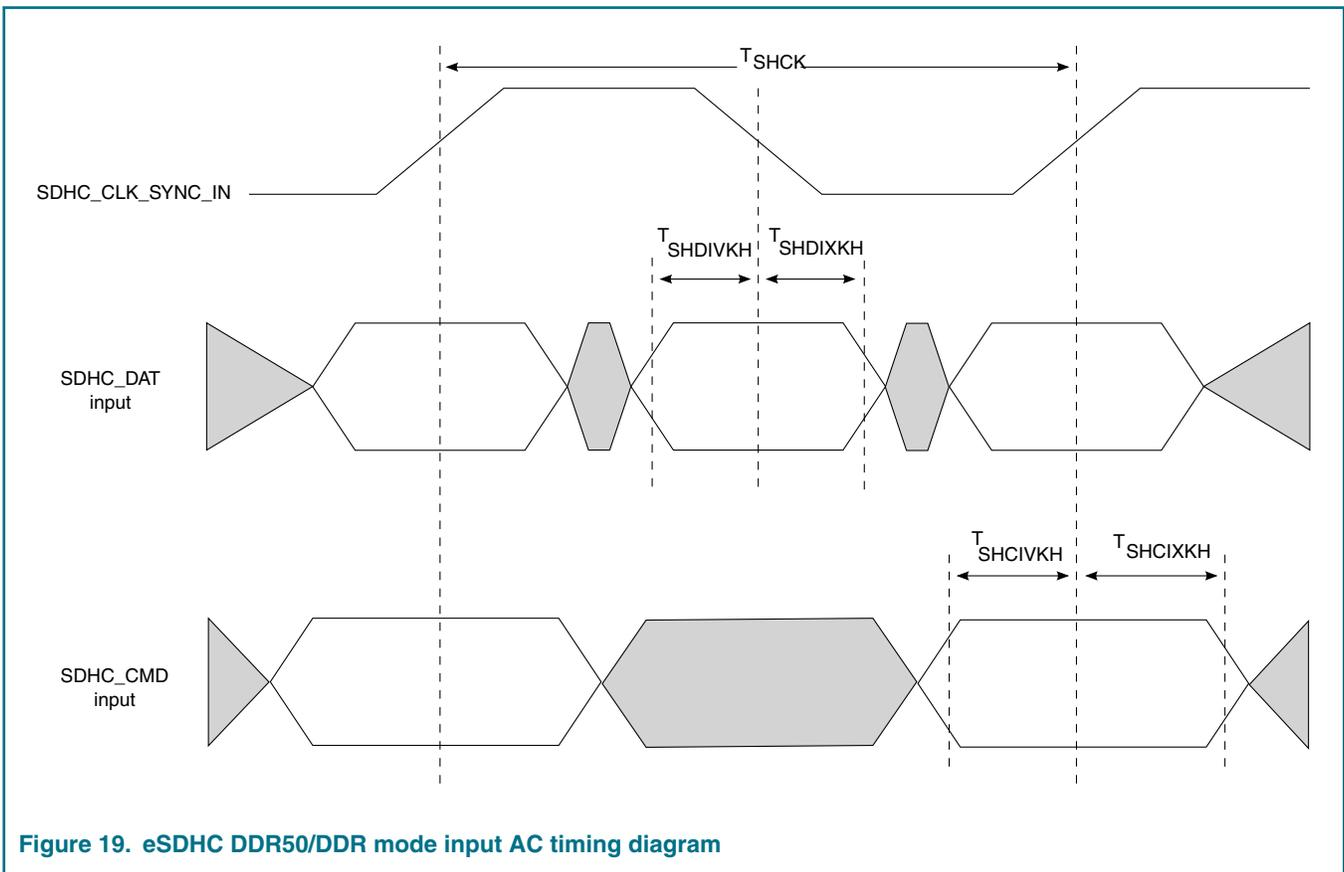
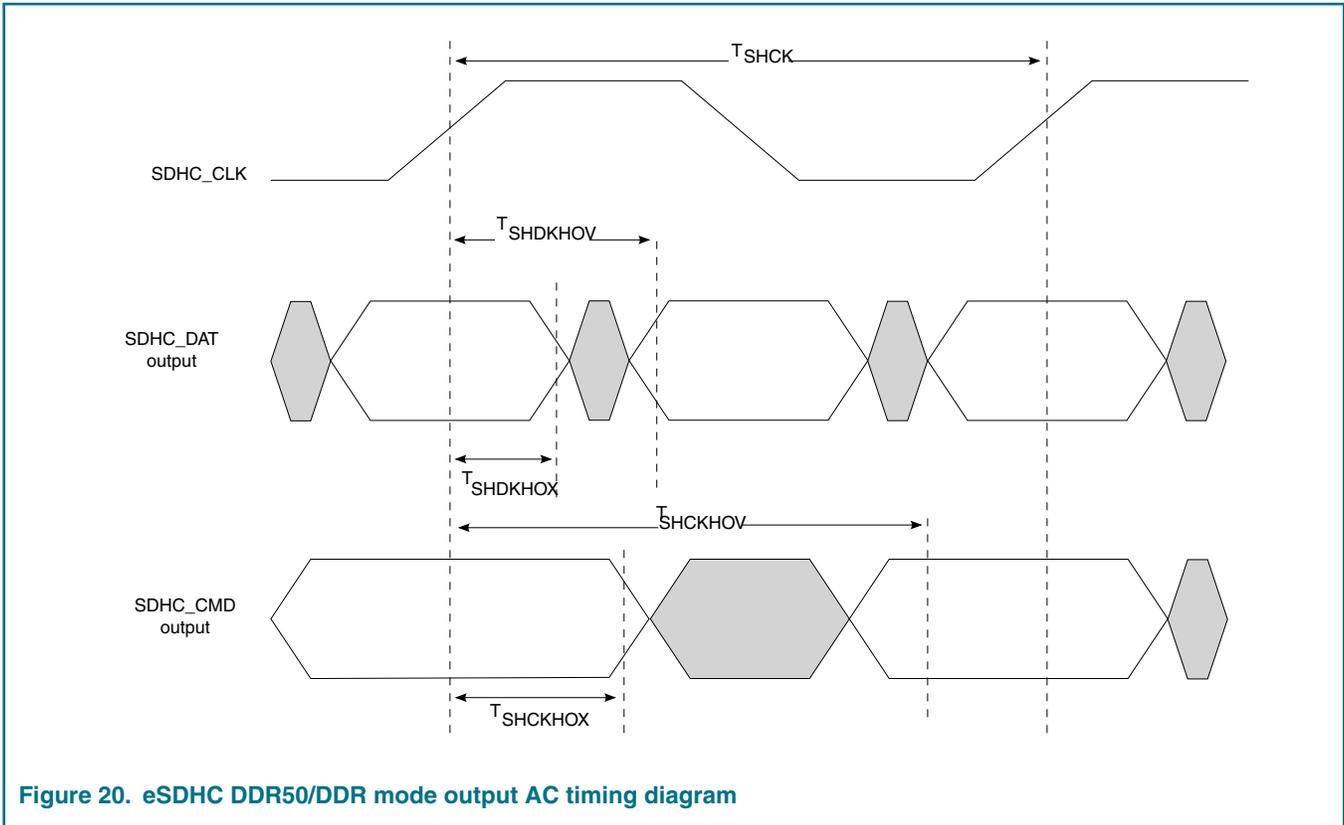

Figure 19. eSDHC DDR50/DDR mode input AC timing diagram
Figure 20. eSDHC DDR50/DDR mode output AC timing diagram
1. $C_{CARD} \leq 10\text{pF}$, (1 card). 2. $C_L = C_{BUS} + C_{HOST} + C_{CARD} \leq 20\text{ pF}$ for MMC, $\leq 25\text{pF}$ for Input Data of DDR50, $\leq 30\text{pF}$ for Input CMD of DDR50. 3. The symbols used for timing specifications herein follow the pattern of $t_{(\text{first two letters of functional block})(\text{signal})(\text{state}) (\text{reference})(\text{state})}$ for inputs and $t_{(\text{first two letters of functional block})(\text{reference})(\text{state})(\text{signal})(\text{state})}$ for outputs. For example, t_{SHKHOK} symbolizes eSDHC highspeed mode device timing (SH) clock reference (K) going to the high (H) state, with respect to the output (O) reaching the invalid state (X) or output hold time. Note that in general, the clock reference symbol is based on five letters representing the clock of a particular functional. For rise and fall times, the latter convention is used with the appropriate letter: R (R for rise) or F (F for fall). 4. See Figure 19 . on page 91. 5. See Figure 20 . on page 92. 6. The AC timing specifications are based on the recommended operating conditions with EVDD /OVDD =1.8V and EVDD=3.3V, see Recommended Operating Conditions